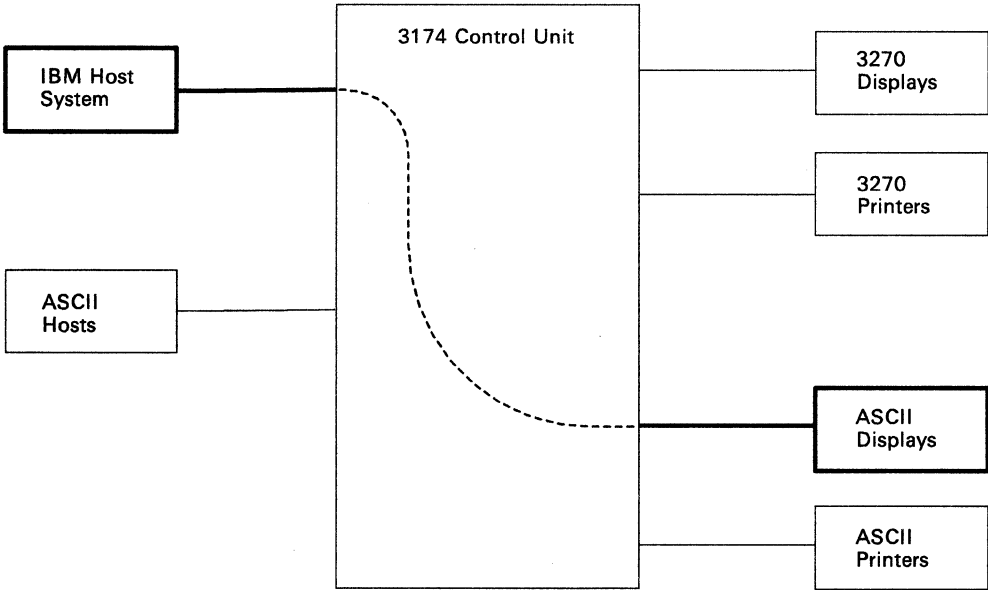

Figure B-4. ASCII Terminal Communicating with an IBM Host
- ASCII displays and/or printers to IBM hosts (see Figure B-4)